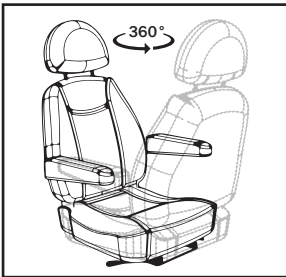

Figure 10
- Move the lever up, the seat rotates 360 degrees (see figure 10).